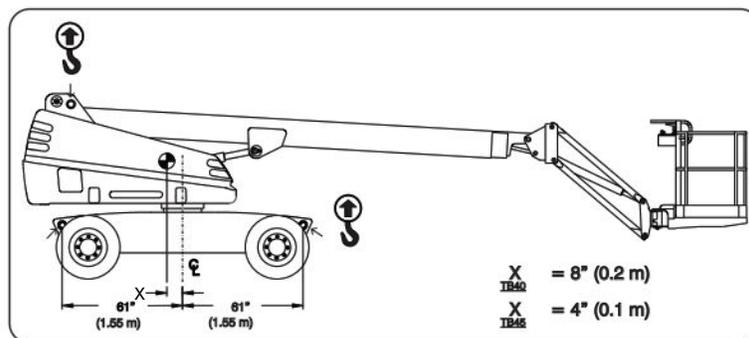

Figure 3-8. 45T Lifting Points
When lifting the MEWP, lifting devices must be attached to designated lift points only (refer to Figure 3-8).
4. Properly adjust rigging to ensure MEWP remains level during lifting. See Center of gravity location (Figure 3-8).